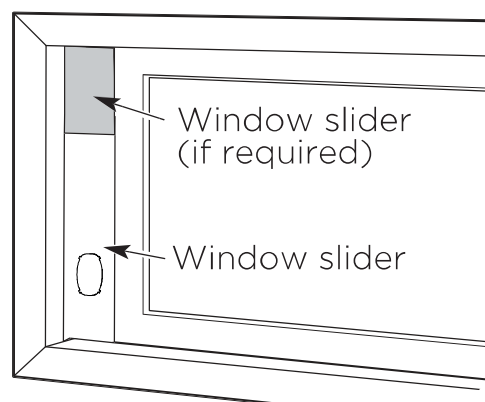

Figure 1
3. Insert the window slider assembly into the window track. If the hose opening is covered by the window frame, rotate the panel so the wider side faces the window frame (Figure 1). Attach the Window Kit Brace to the back of the hose panel to brace against the window so the window slider panels do not lean inward (Figure 2).